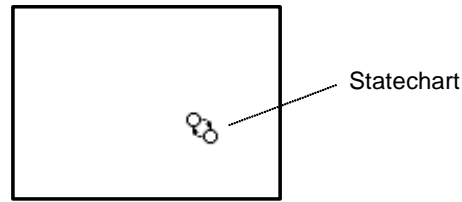

Figure 112. Statechart
2. Click the place on the structure diagram where you want to place the statechart. A statechart appears, displayed as an icon, see Figure 112.